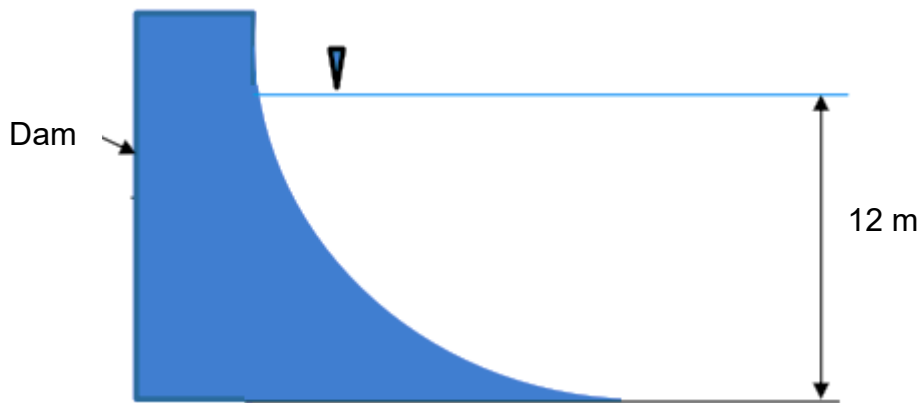

Figure 2
- (b). The curved face of a dam is shaped according to the equation $y = \frac{x^2}{12.5}$ as shown in **Figure 2**. For a unit width of the dam, determine the magnitude and direction of the resultant water pressure acting on the curved surface of the dam.